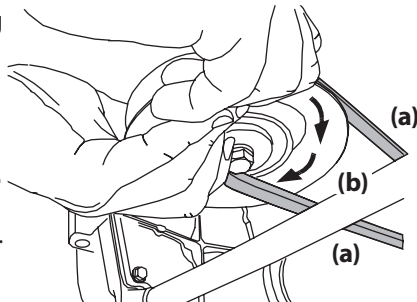

Figure 48
- d. While still holding the PTO belt (a) downward, continue turning the PTO pulley (b) until the PTO belt (a) is rolled off the PTO pulley (b). Refer to Figure 48.
- While holding the PTO belt and PTO pulley together, rotate the PTO pulley to the left (See Figure 48). Continue holding and rotating the PTO pulley and PTO belt until the PTO belt is fully rolled into the PTO pulley.